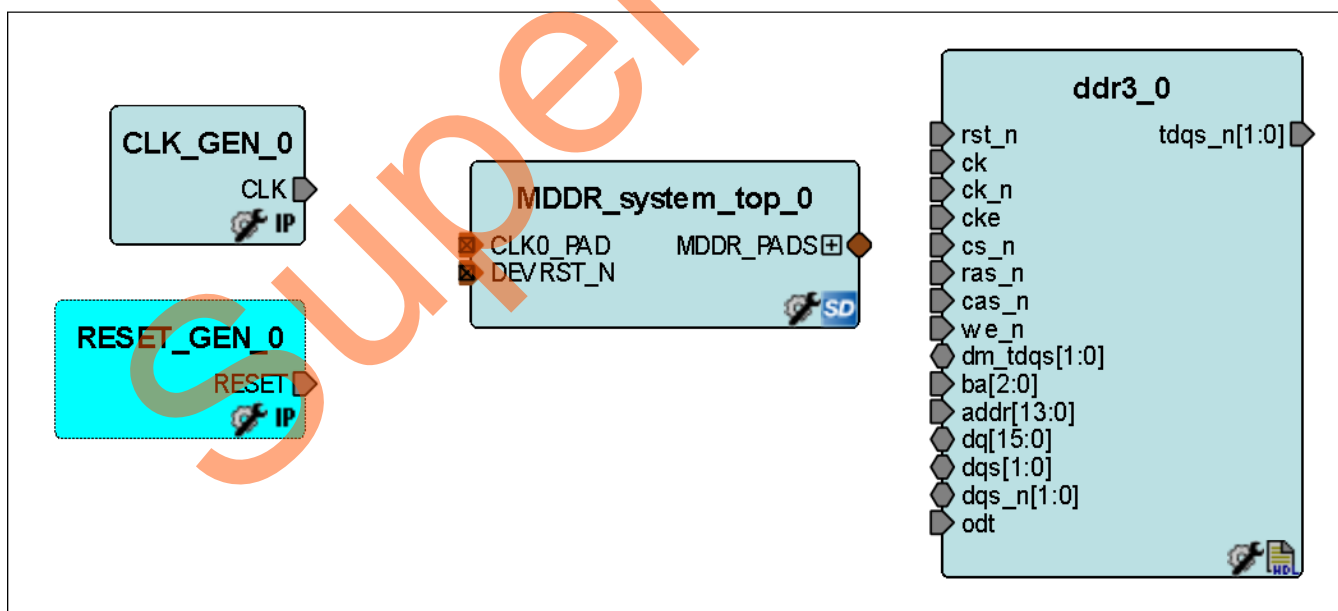

Figure 22. System Testbench Canvas with DDR3 Models Instantiated
10. From the Stimulus Hierarchy window, drag the **ddr3** file into the **MDDR_system_testbench** canvas. You are basically instantiating the DDR3 models into the testbench to emulate an external DDR3 memory. You are going to simulate the write and read from the DDR3 using the Cortex-M3 processor as the master through the MDDR controller in the MSS. After you instantiate the DDR3, the canvas is displayed, as shown in Figure 22.